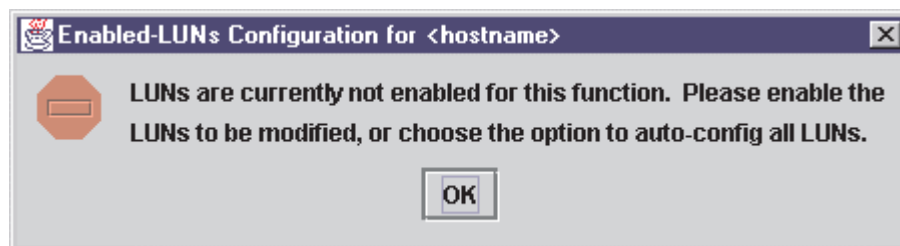

Figure 96. Enabled LUNs Only Warning dialog window
- Click **Enabled LUNs Only** to configure only enabled LUNs for load balancing across the paths within this device. When you click this option for a device with no enabled LUNs, the message shown in Figure 96 displays. Click **OK**.